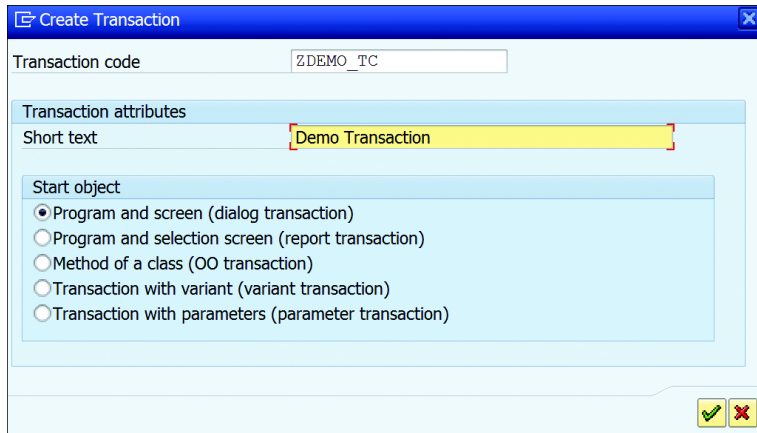

Figure 12.46 Creating Transactions
2. In the CREATE TRANSACTION window (see Figure 12.46), input a TRANSACTION CODE and SHORT TEXT. Select the PROGRAM AND SCREEN (DIALOG TRANSACTION) radio button and click CONTINUE. The other options on this screen allow you to create the following types of transaction codes: